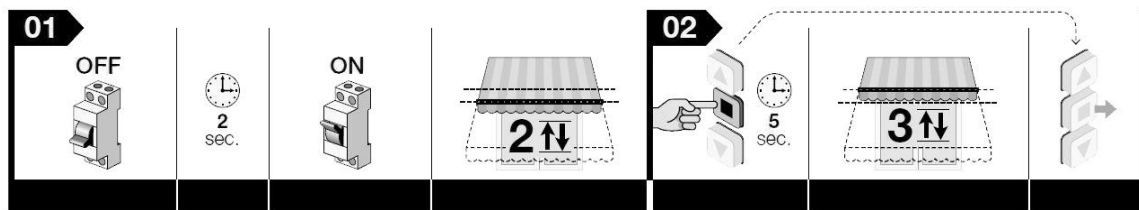

Figure 40
1. Cut out the AC power to the motor, wait for 2 seconds and put back the AC power to the motor; the motor will move twice and remain in waiting mode without any time limit, **see figure 40**.
2. Keep the ■ button pressed until the motor moves 3 times, once the motor has moved for the 3rd time, release the button, **see figure 40**.